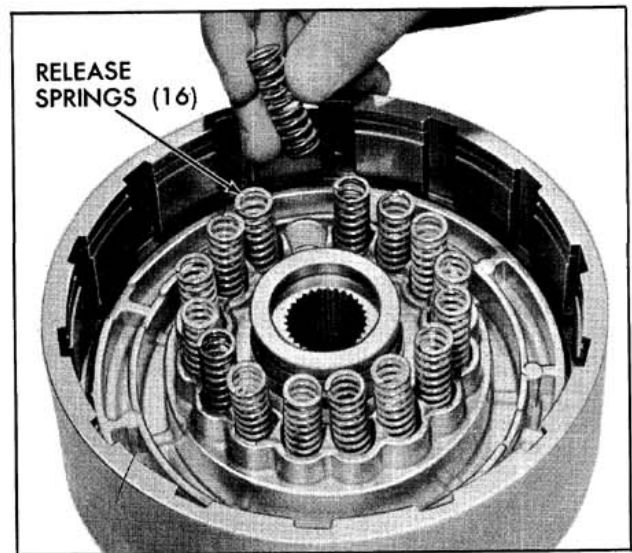

Fig. 6-131 Removing Release Springs
7. Remove the tools, snap ring, spring retainer and 16 clutch release springs. (Fig. 6-131)